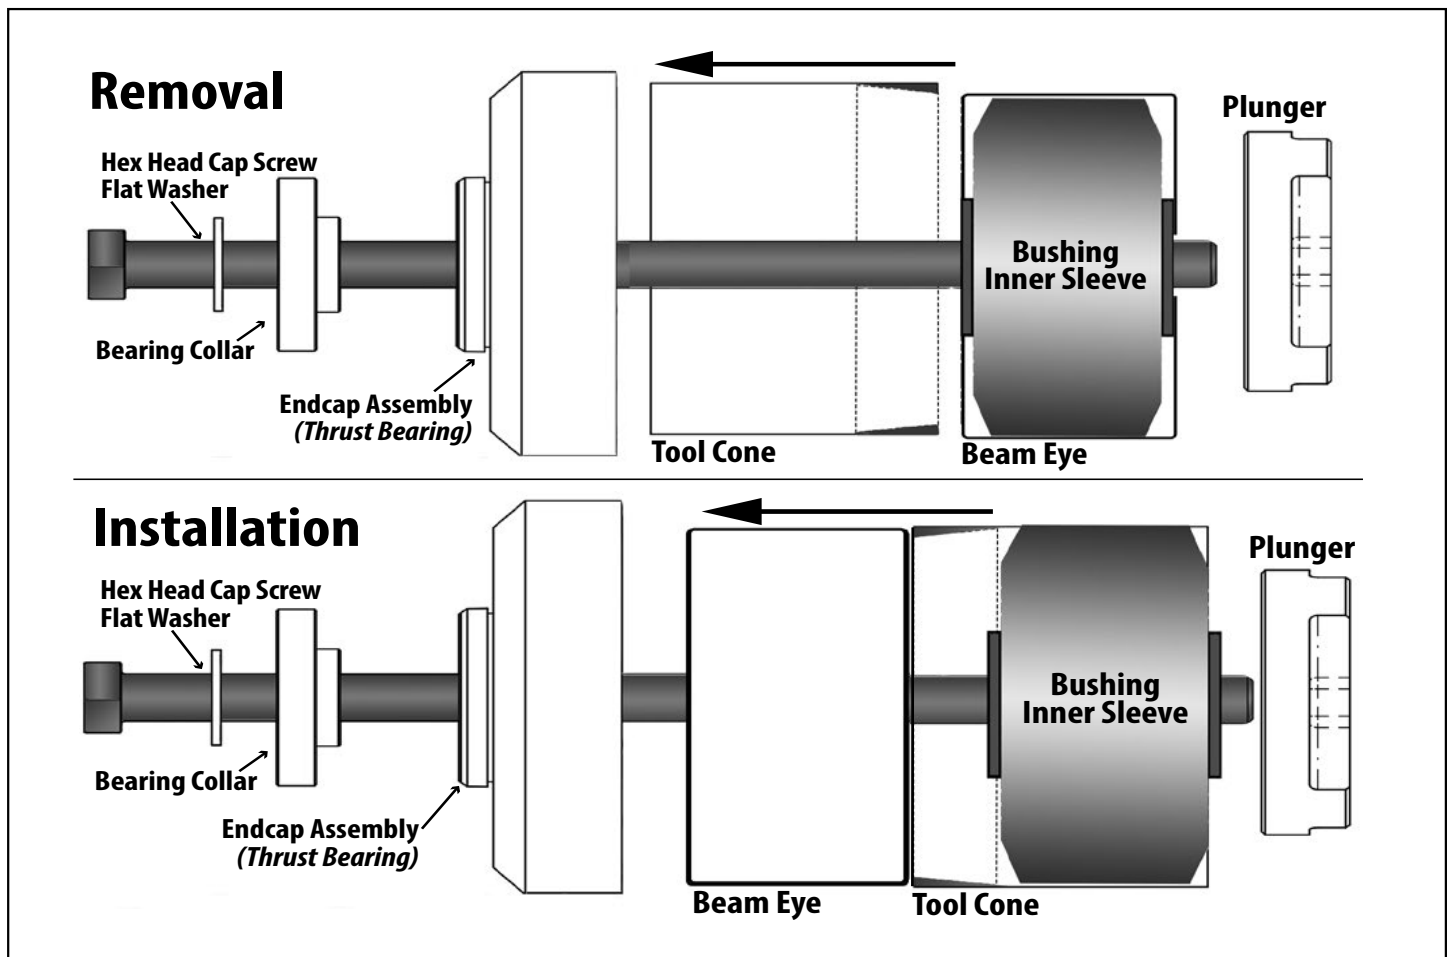

Figure 8.
Thread the flat washer, the bearing collar and the endcap onto the HHCS until the bearing collar and endcap rest against the head of the HHCS. Place tool cone onto endcap (Figure 8).
1. Push the HHCS through the inner sleeve until the tool cone is against the beam eye. Thread the plunger onto the HHCS until the tool cone is held firmly against the beam (Figure 8).